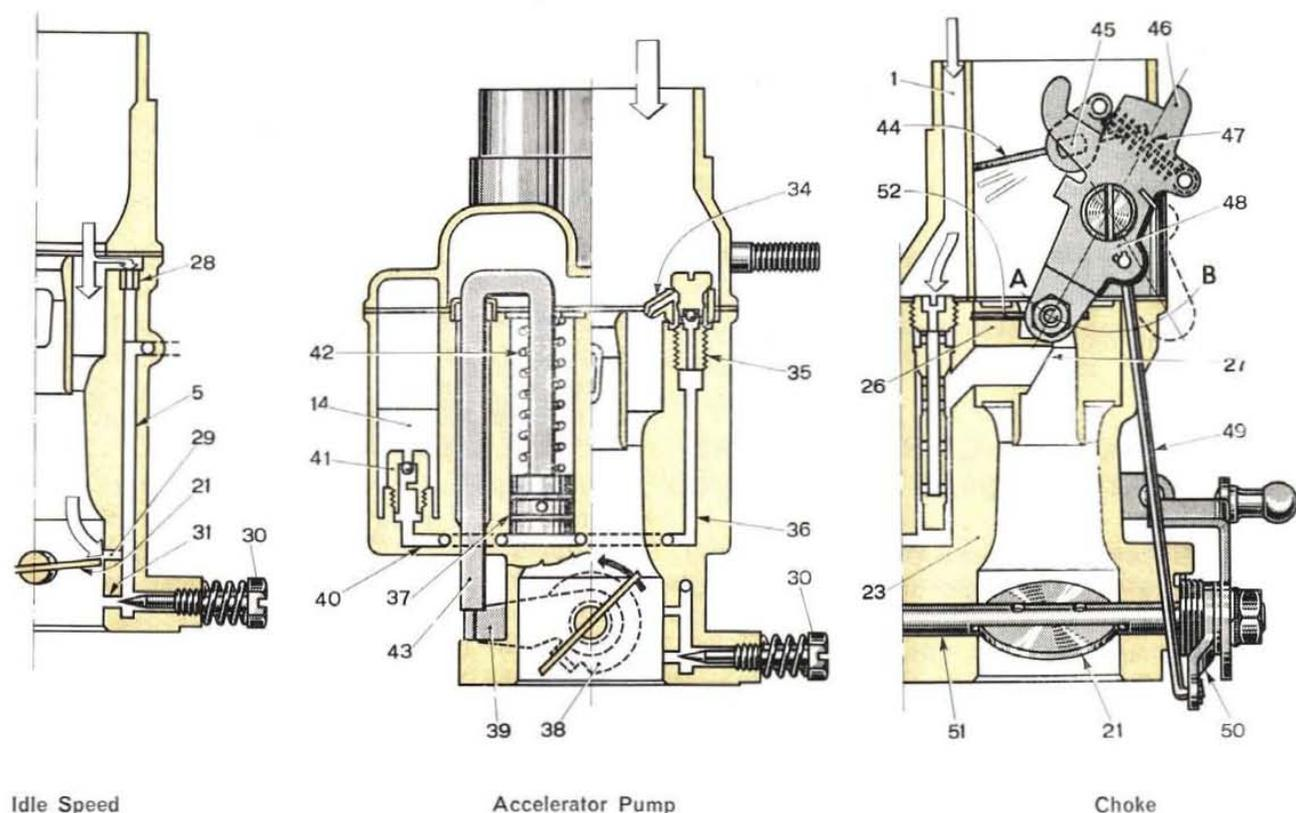

Fig. 143 - Diagrammatic section views of Weber carburetors « 30 ICF » and « 30 ICF 7 ».
While idling, the fuel is passaged via (17) from the well (20) to the idle jet (6), where it blends with the air from the calibrated bushing (28, fig. 143) through the passage (5) and the idling feed orifice (31), which can be adjusted by means of the tapered screw (30). Fuel is thus discharged into the carburetor barrel below the throttle (21). Here it is further mixed with the air drawn in by engine suction through the gaps between the barrel walls and the butterfly in the idling position.
The accelerator pump (fig. 143) ensures smooth acceleration of the engine when the throttle is opened suddenly. It consists of a metal plunger (37) operated by the control rod (43) through the idler lever (39).
The easy starting device (fig. 143) consists of the choke valve (44) riding offset to the throttle spindle (45), which is connected to the control lever (48) through the spring (47).
When the easy starting knob on floor tunnel is pulled out to its fullest extent for cold starting, the lever (48) shifts to the position « A » (fig. 143) so that the throttle (44) blanks the carburetor air suction, while the main throttle (21) is set in a certain opening position through the rod (49) which con-
nects the lever (48) and the lever (50) on the main throttle spindle (51, fig. 143).
Suction vacuum from the cranked engine rises to rather important values as a result of the throttle (44, fig. 143) restriction: the discharge tube (27) will deliver therefore a high rated mixture which enables quick starting of engine.